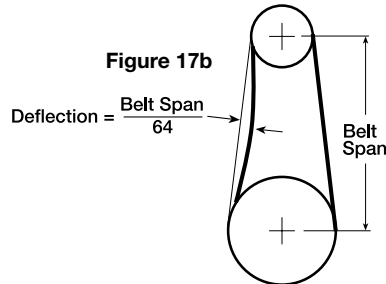

Figure 17b
- Sizes 180-480:** Belt tension should be adjusted to allow 1/64 in. (0.397 mm) of deflection per inch of belt span. For example, a 15 in. (381 mm) belt span should have 15/64 in. (5.95 mm) (or about 1/4 in. (6 mm)) of deflection with moderate thumb pressure at mid-point between pulleys, see Figure 17b.